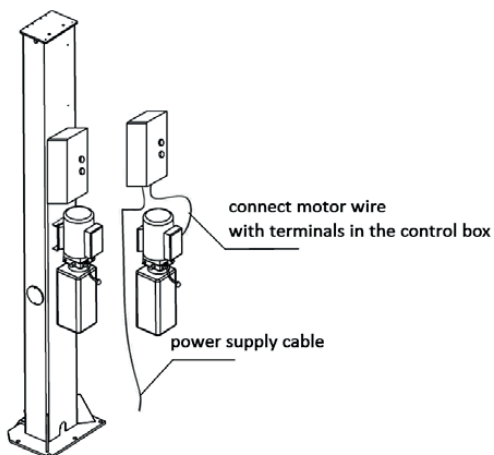

Fig. 12
3. Connect the solenoid valve and motor wire (**fig. 12**).